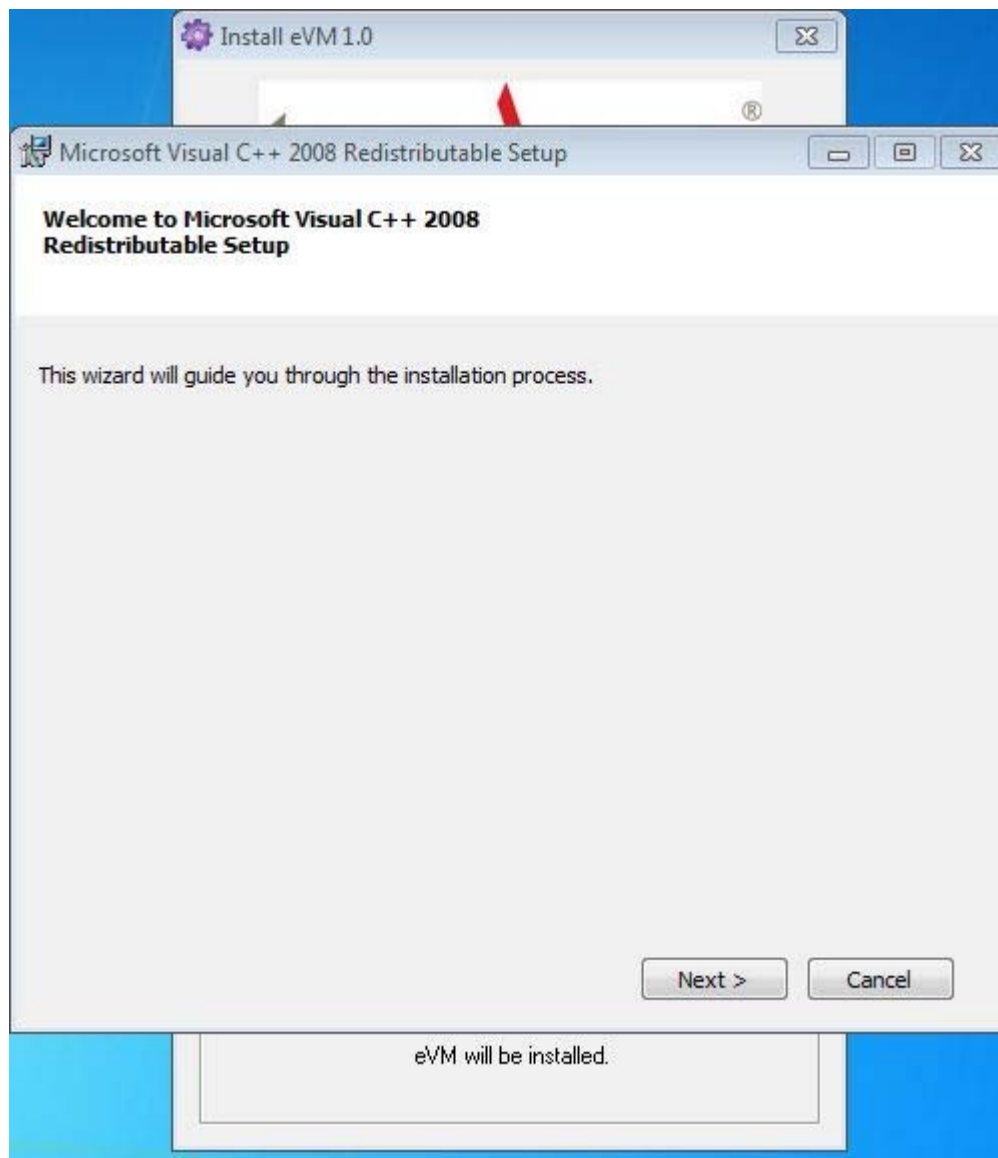

Figure 4.1 - Installing Visual C++ 2008 Redistributable
1. Run **evm100-install.exe** which begins the installation process by installing the Microsoft Visual C++ 2008 Redistributable, see Figure 4.1.